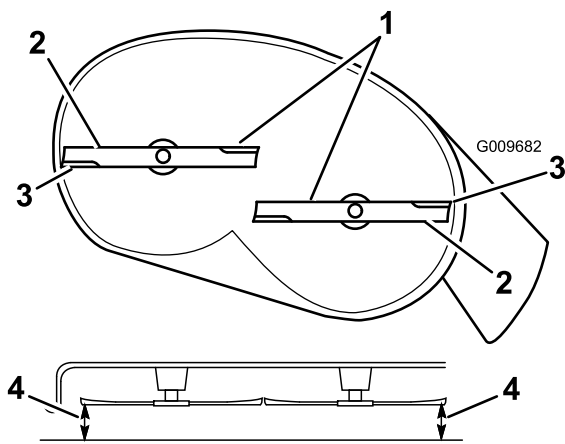

Figure 57
4. Carefully rotate the blades so that they are all side to side (Figure 57).
5. Measure between the outside cutting edges and the flat surface (Figure 57).